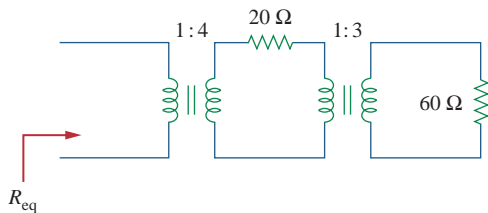

Figure 13.120
13.55 For the circuit in Fig. 13.120, calculate the equivalent resistance.